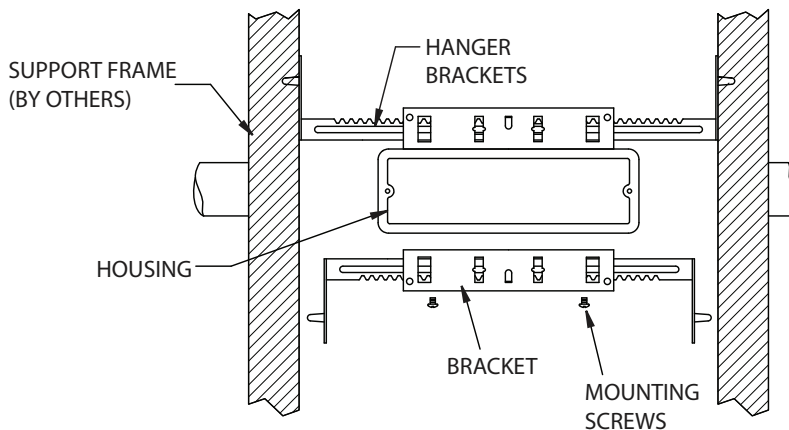

FIG. 4
- b. For drywall construction refer to FIG 4, 5, and 6.
2. Remove screws from housing and use them to secure brackets to housing shown in figure 4.